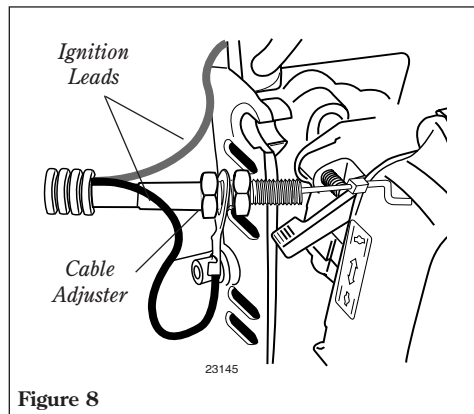

Figure 8
2. Install the black wire between the two cable adjuster nuts as shown. See Figure 8.